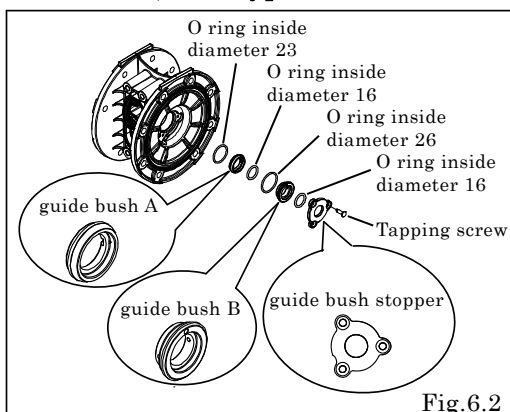

Fig.6.2
- Remove the tapping screw fixing the guide bush stopper and remove the guide bush A, guide bush B and O ring. [Fig.6.2]